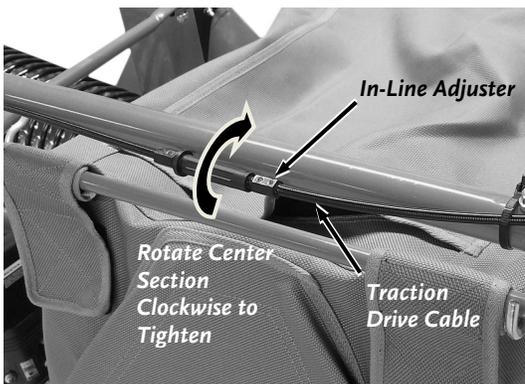

Figure 35
1. Locate the Traction Drive Cable along the Left Side of the Handlebar (**Figure 35**). There is an In-Line Adjuster to change the length of the Cable.